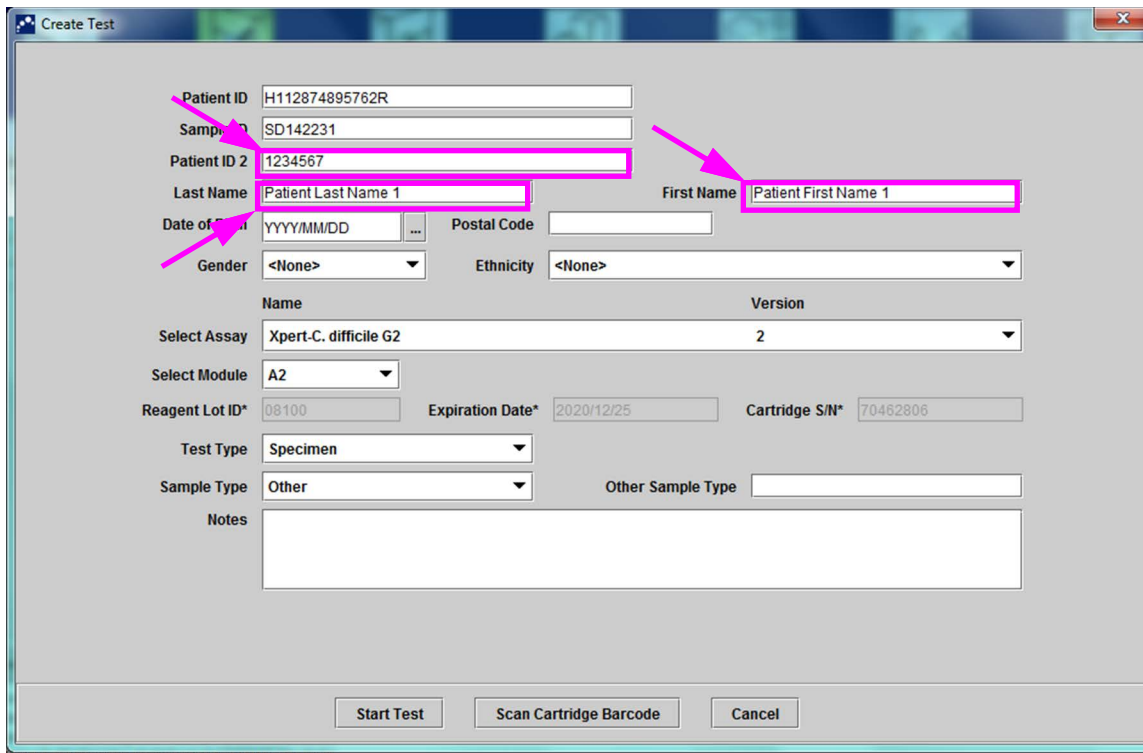

Figure 5-21. Create Test Dialog Box with the Patient ID and Sample ID Fields Shown
4. Scan the cartridge barcode using the supplied barcode scanner. See Section 5.5. The Create Test dialog box appears as shown in Figure 5-21. Note that the software automatically fills the required information into the Create Test window.
6. (Optional) If **Patient Name** is enabled, place the cursor in the **Last Name** field and enter the patient's last name then place the cursor in the **First Name** field and enter the patient's first name (see Figure 5-21).